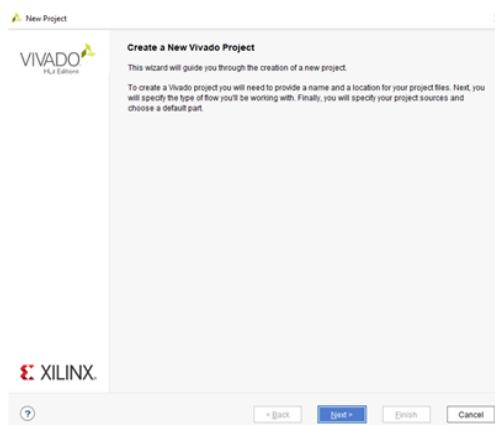

Figure 3: Create New Vivado Project
- On the “Create a New Vivado Project” window (Figure 3), click Next: